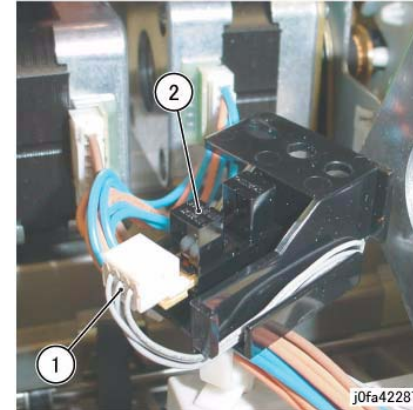

Figure 4 Removing the Front Tamper Home Sensor
11. Remove the Front Tamper Home Sensor Assembly (Figure 4):